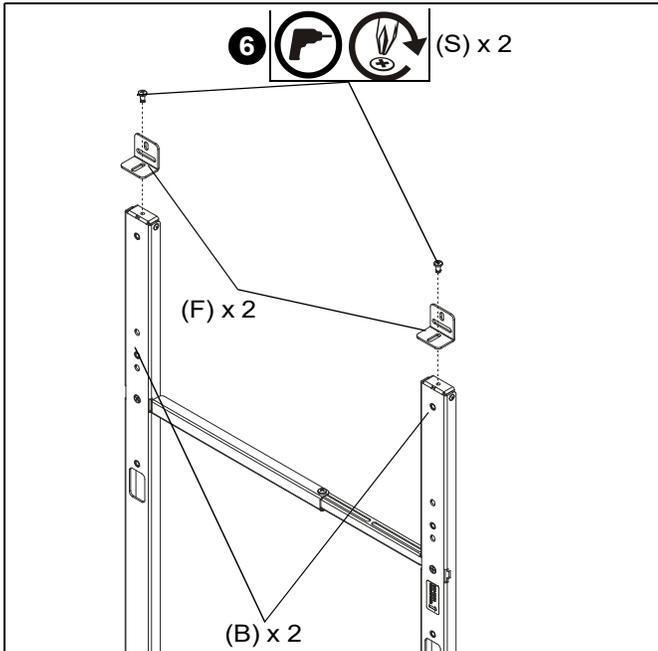

Figure 3
- Use #3 drill bit (V) and two 1/4-20 x 1/2" button head cap screws (S) to secure two wall brackets (F) to top uprights (B). (See Figure 3)